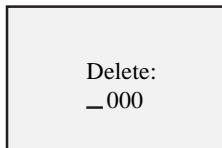

Fig. 4.16 Delete Function Block
1. Press OK at >Delete FB in the Editor Frame, thus the deleting status is entered, as shown in Fig. 4.16.